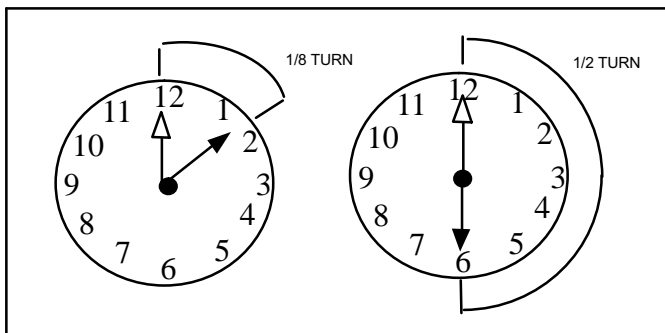

Figure 4. Tightening Distance
3. Connect the liquid line assembly with the brass nut to the liquid line orifice housing. Finger tighten and use an appropriately sized wrench to turn an additional 1/2 turn clockwise as illustrated in figure 4, or 20 ft-lb.
2. Attach the stubbed end of the TXV to the liquid line orifice housing. Finger tighten and use an appropriately sized wrench to turn an additional 1/2 turn clockwise as illustrated in figure 4, or 20 ft-lb.
4. Attach the liquid line assembly with brass nut to the TXV. Finger tighten and use an appropriately sized wrench to turn an additional 1/2 turn clockwise as illustrated in figure 4, or 20 ft-lb.
6. Connect the equalizer line from the TXV to the equalizer suction port on the suction line. Finger tighten the flare nut plus 1/8 turn (7 ft-lbs) as illustrated in figure 4 on page 11.